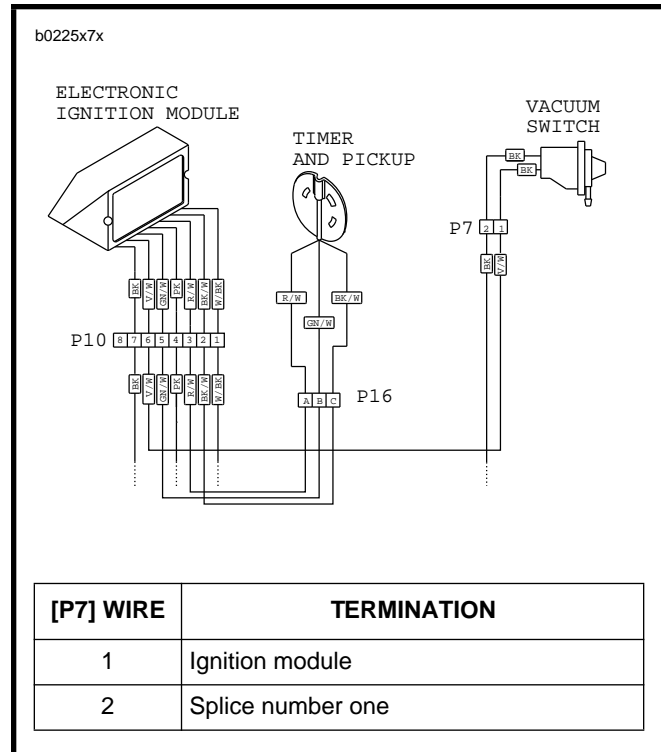

Figure 7-4. V.O.E.S. Connector [P7]
2. See Figure 7-4. Disconnect V.O.E.S. connector [P7] from main wiring harness.
1. See Figure 7-4. Place a **new** V.O.E.S. on carburetor.